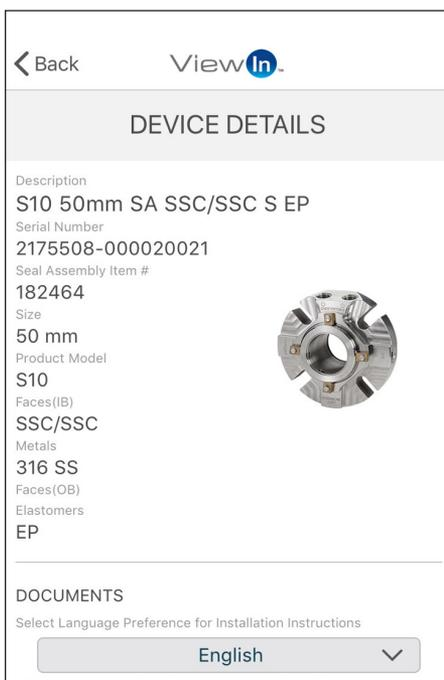

Figure 23
4. Press the seal you are interested in to view its details (Figure 23).